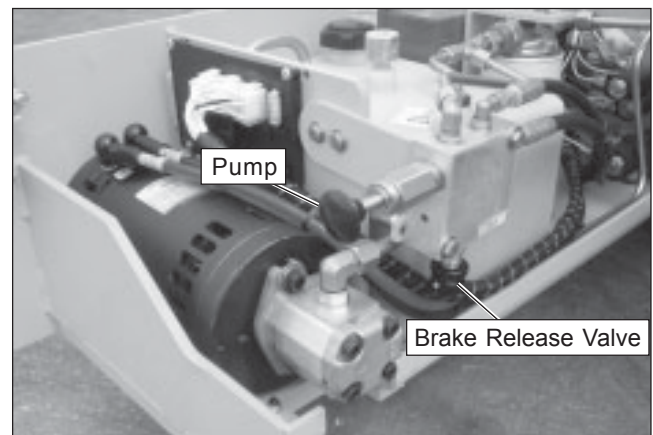

Figure 11.3 – Hydraulic Tray
4. The brake release pump is located on brake release valve (refer to Figure 11.3) in the hydraulic tray. Push and release the knob several times to release the brakes.